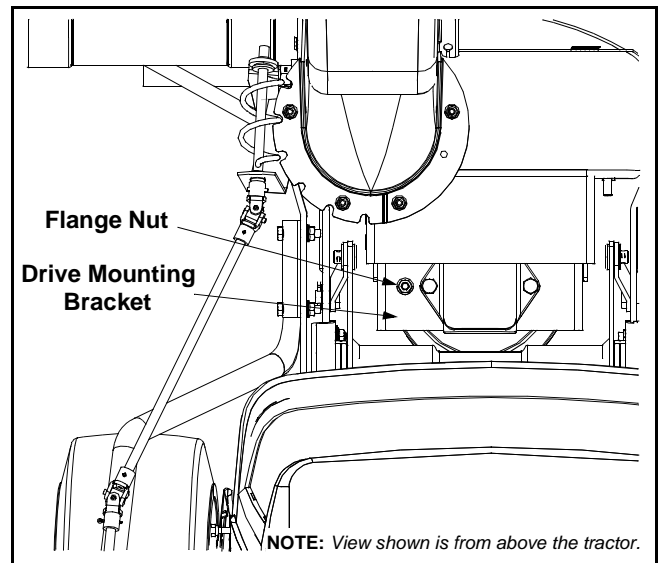

Figure 16
1. Loosen, but do NOT remove the flange nut which secures the belt keeper to the drive mounting bracket. See Figure 16.